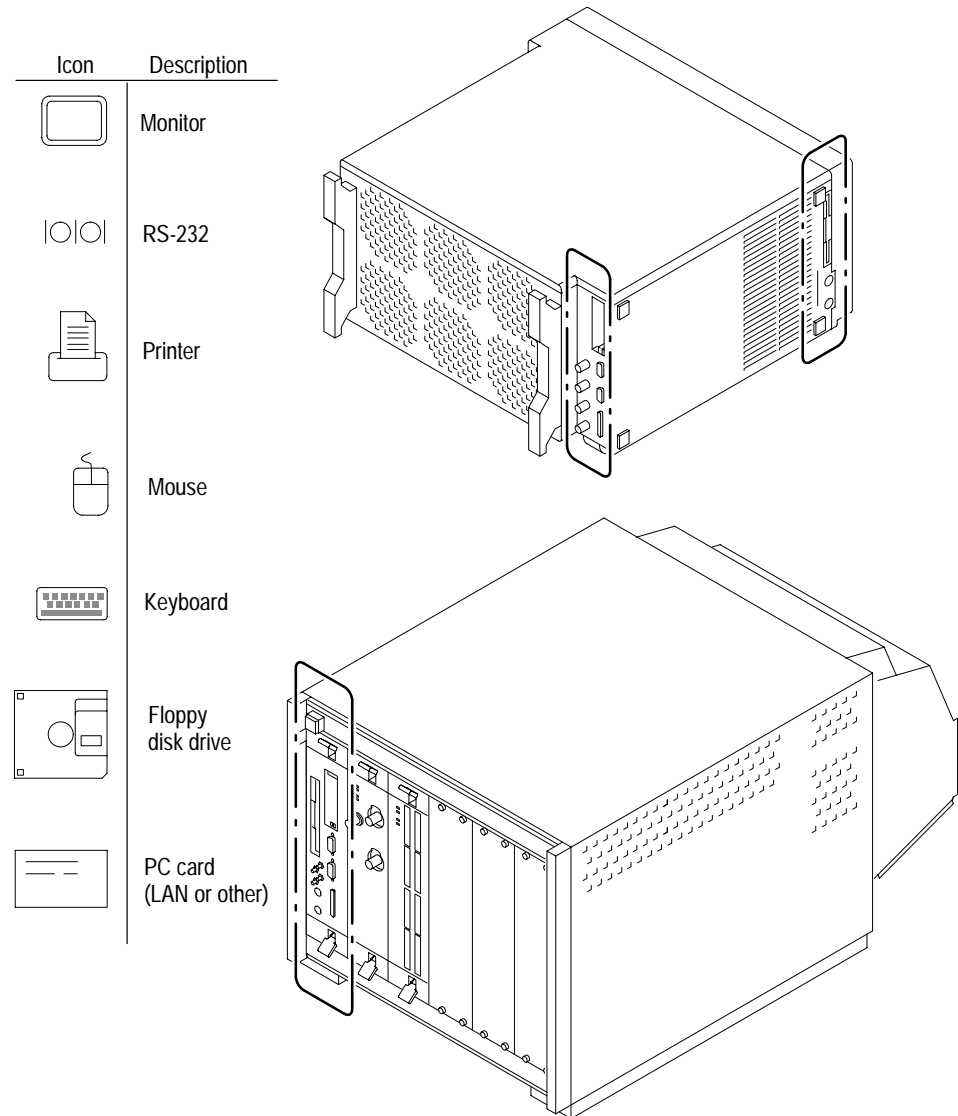

Figure 4: Locations of external connectors
The accessory connections are the same as those you would make on a personal computer. The connection points are shown in Figure 4. Use the icons that appear in the circled areas as a guide. See Table 2 on page 8 for additional connection information.
**CAUTION.** Connect the keyboard, mouse, and other accessories before applying power to the mainframe. Connecting the accessories after powering on the mainframe can damage the accessories. Refer to Figure 4 on page 7 for connection information.